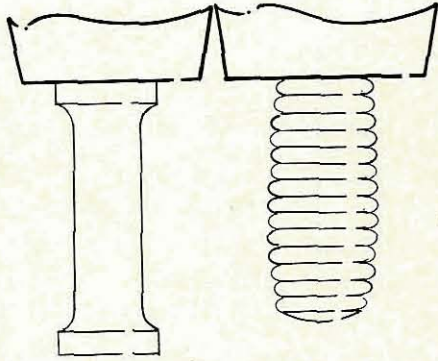

Fig 1.12 Although they may look attractive, ridges on mallet handles can make the hand sore with prolonged use
- The handle should be comfortable, with nothing prominent to cause soreness or even blistering (Fig 1.12). A mallet can be used for long periods of work and you may not notice the effect until